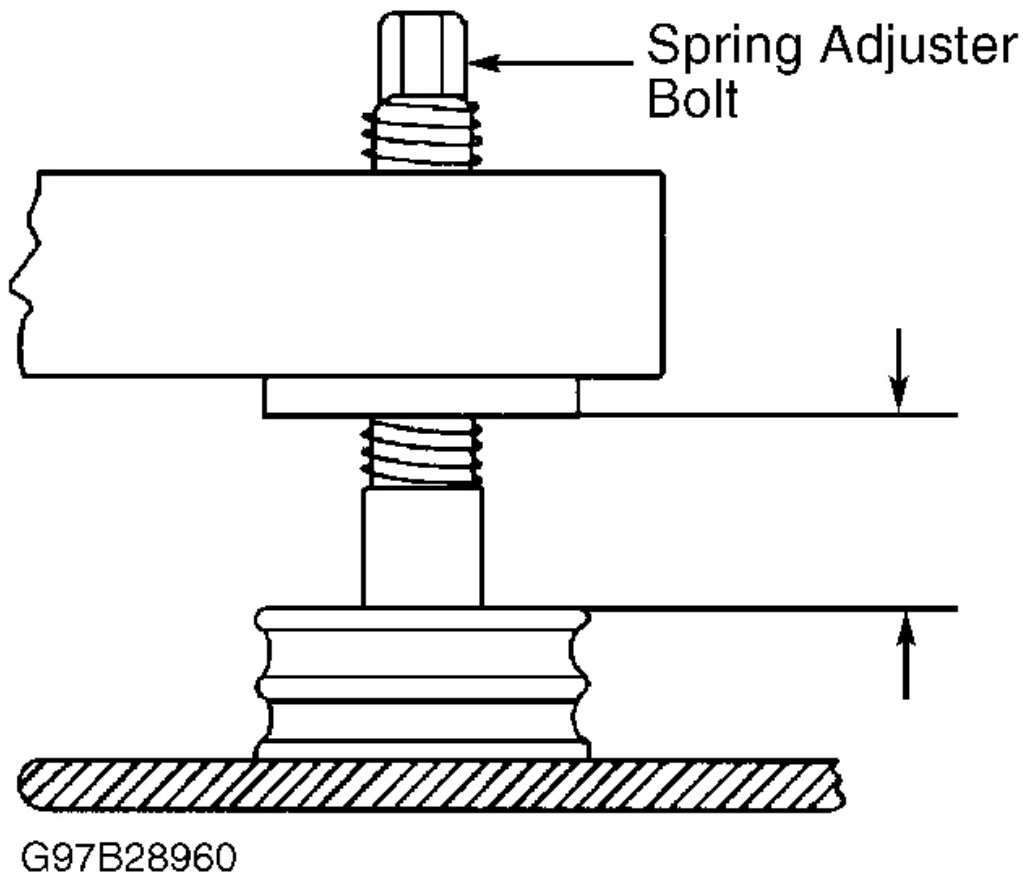
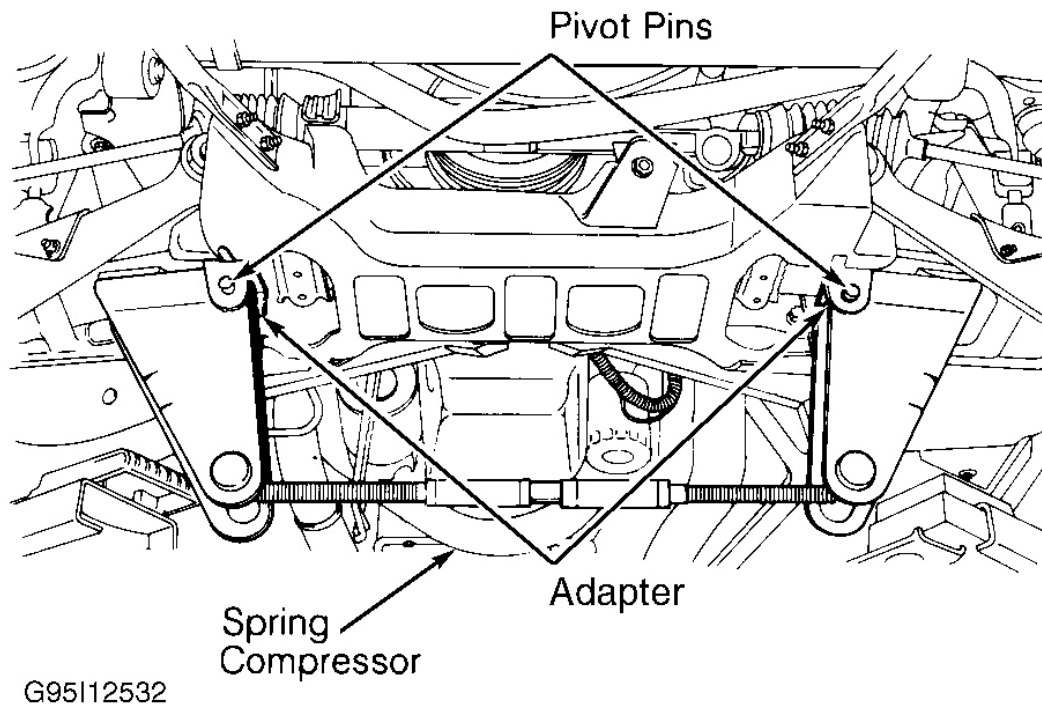

Fig. 2: Checking Spring Adjuster Bolt Gap
Fig. 5: Compressing Front Spring
3. Dimension "Z" is 1.5-1.9" (39-49 mm). If trim height is not within specification, use Spring Compressor (J-42743) to lift spring off lower control arm. Adjust dimension "Z" by turning spring adjuster bolt. One complete turn of spring adjuster bolt is equal to .07" (2 mm). Spring adjuster bolt gap is .07-.94" (2-24 mm), with .19" (5 mm) maximum difference side-to-side. See **Fig. 2** .
1. Raise and support vehicle on frame rails to allow suspension to hang free. Remove wheels. If replacing spring, measure spring adjuster bolt gap for installation. See **Fig. 2**. Compress spring using Spring Compressor (J-33432-A) and Adapter (J-33432-88). See **Fig. 5**. Disconnect shock absorbers and stabilizer bar links from lower control arms. Remove cotter pins and nuts from lower ball joint studs.